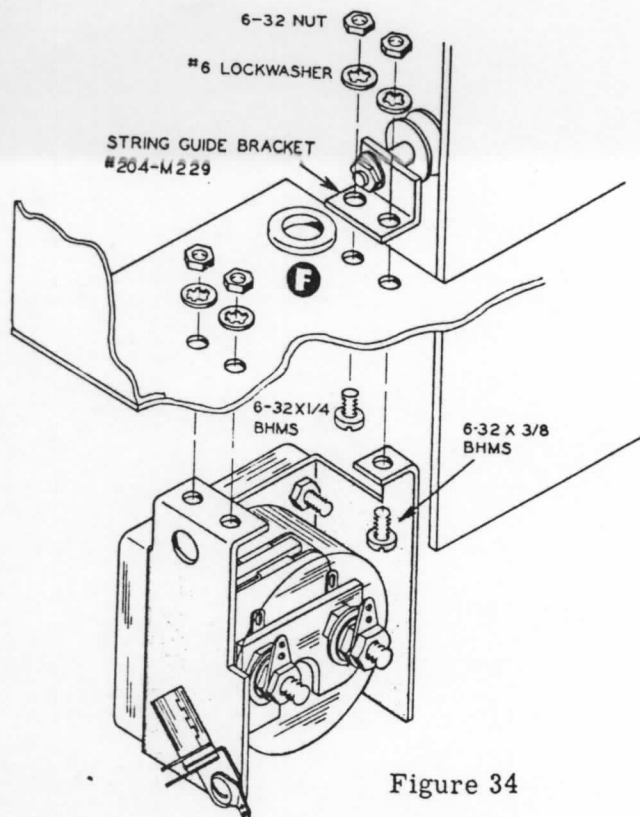

Figure 34
- (✓) Position this assembly on the underside of the main chassis top plate, as shown in Figure 34, and secure with a 6-32 x 1/4" BHMS through the front hole only, keeping the rear hole aligned, completing with a #6 lockwasher and a 6-32 nut from the chassis underside.
- (✓) Now mount the meter mounting bracket, in which the meter has previously been installed, on the top side of the chassis and secure with two 6-32 x 1/4" BHMS, #6 lockwashers and 6-32 nuts. Use a 6-32 x 3/8" BHMS on the mounting screw which passes through and secures the string guide pulley bracket just installed. Refer to Figure 34.